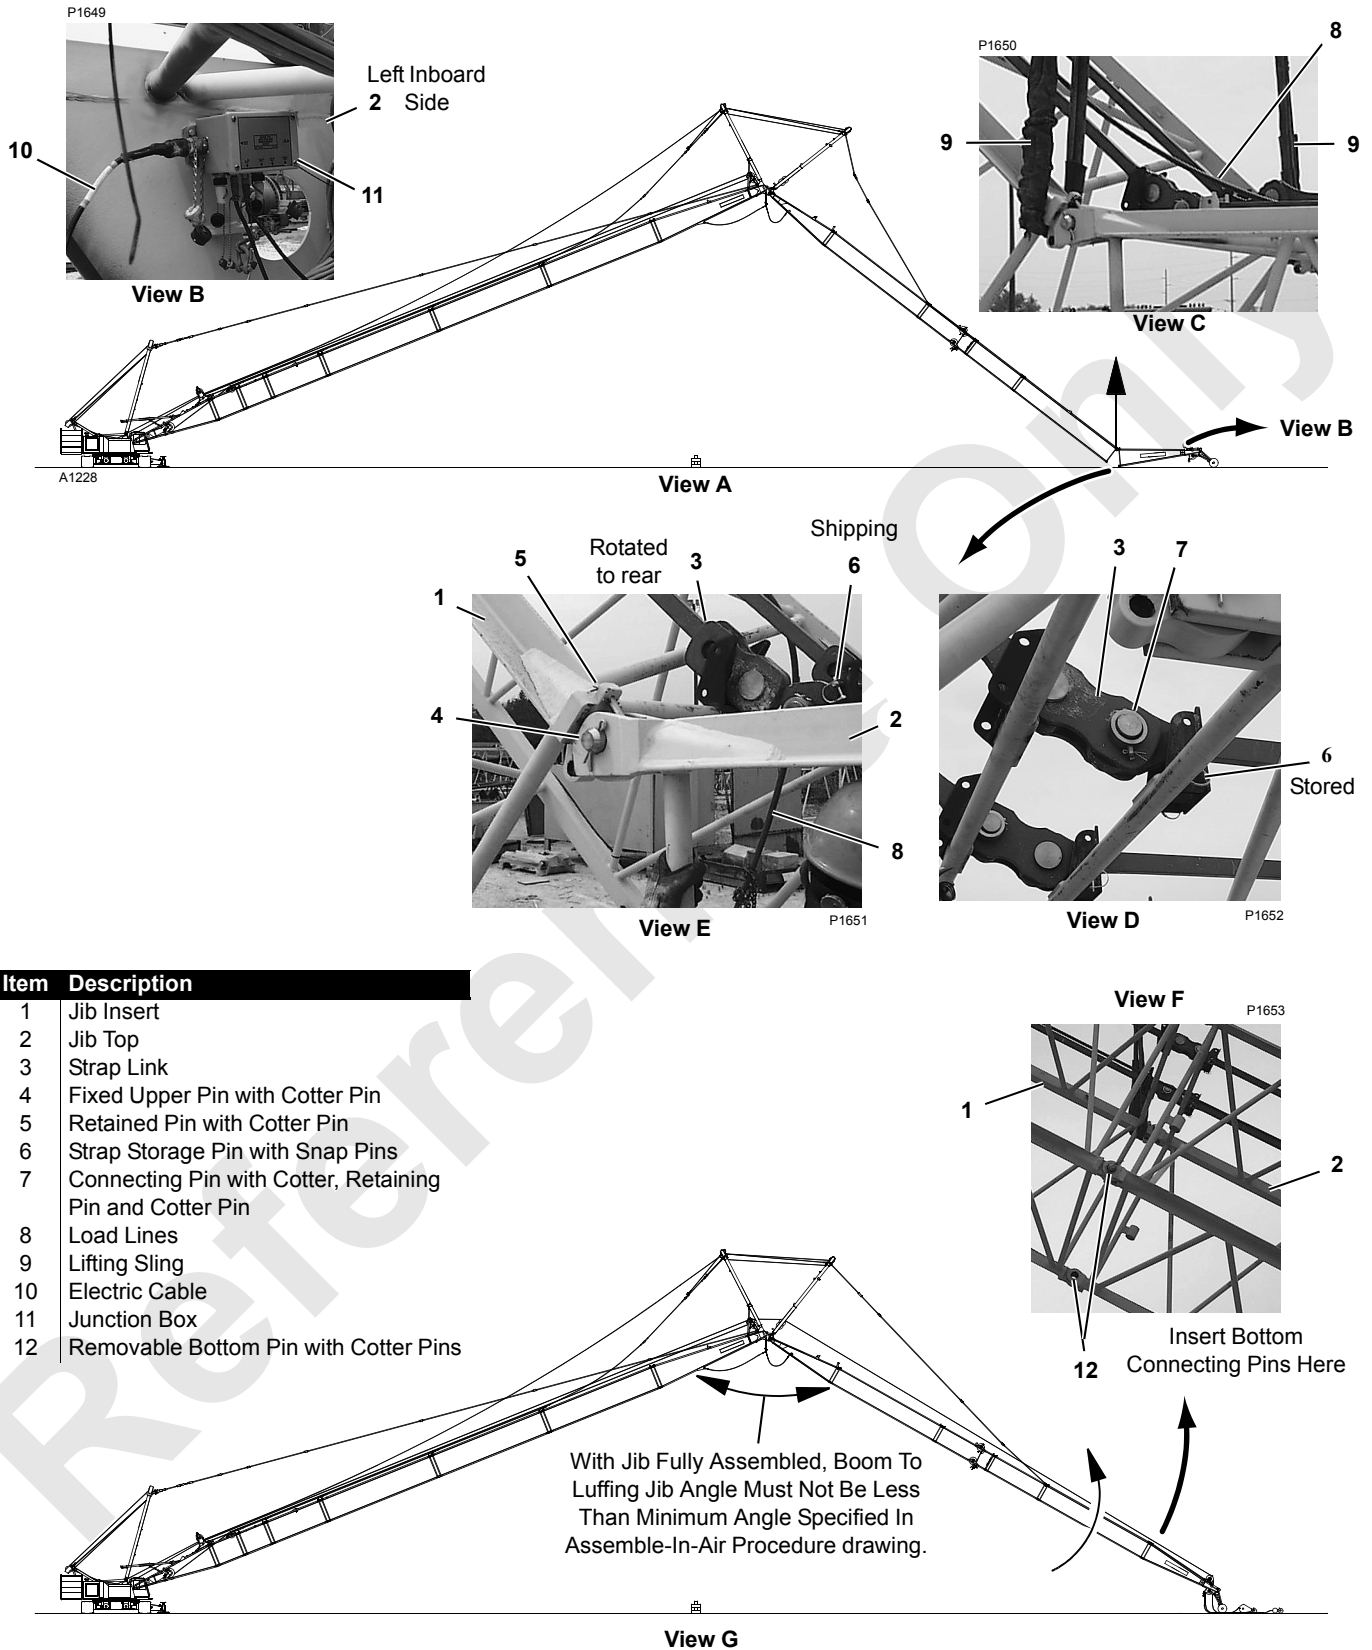

FIGURE 4-20
See Figure 4-20 for the following procedure.
11. Attach lifting slings from assist crane between vertical lacings and connectors at end of insert next to jib top (Figure 4-18, View A and Figure 4-20, View C).